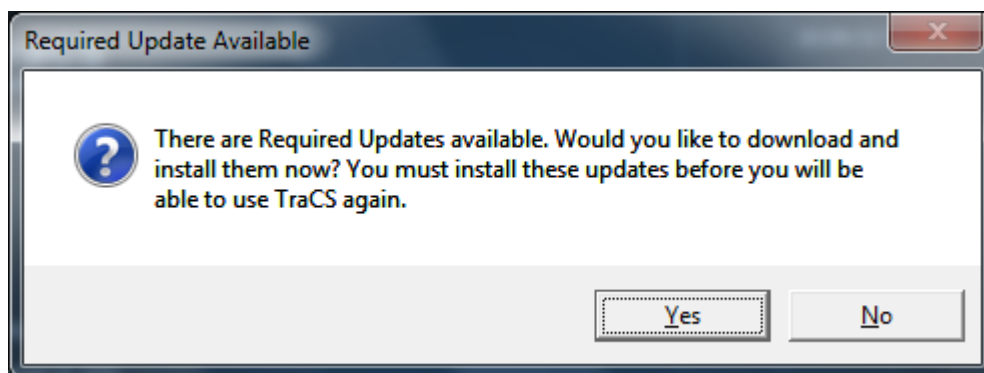

Figure 125. Required Update Available Window
1. Log in to TraCS. If required updates are available the **Required Update Available** window opens, as shown in Figure 125.